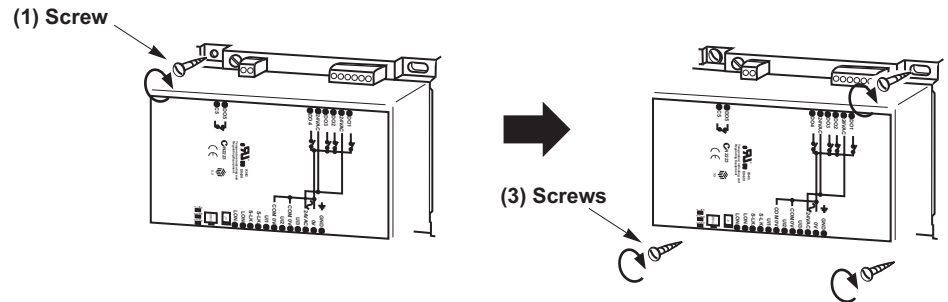

Figure-3 Panel Mounting Method.
2. Do the following to mount the controller onto a panel (Figure-3):